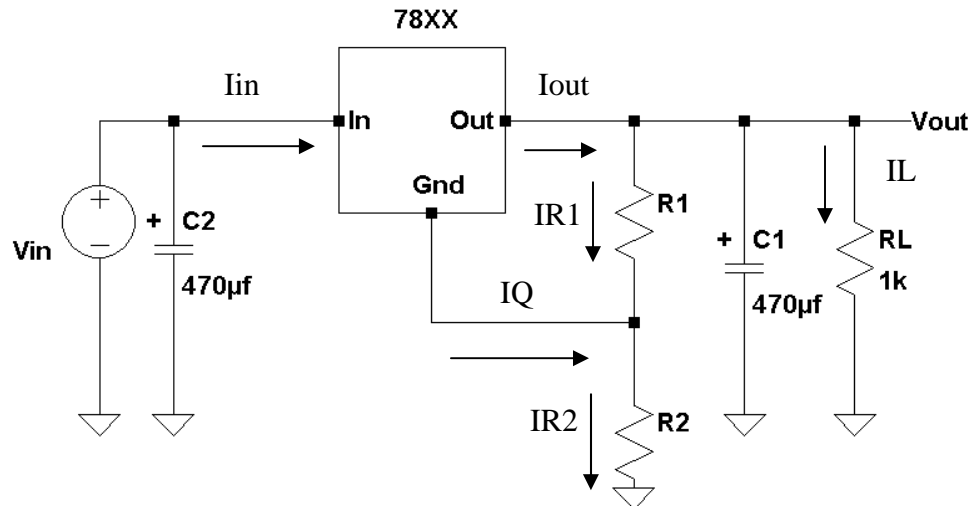

Figure 5: A circuit diagram to make linear voltage regulator adjustable.
The three terminal regulators can also be made to be adjustable so any desired regulated output voltage can be obtained. The only requirement is that the minimum voltage is that of the part itself. For example, a 7805 regulator can be made adjustable, but its minimum output voltage is 5 volts. Figure 5 gives the circuit required to make a three-terminal linear regulator adjustable. For this discussion, assume the regulator output voltage is V_{reg} (the voltage between the output and the ground pins of the regulator). Then I_{R1} is then given by
1. Calculate the resistors R_1 and R_2 required to produce an output voltage of 7 volts for the linear regulator circuit of Figure 5. The minimum values for R_1 and R_2 should be 1000 ohms.
2. Build the linear regulator circuit of Figure 5 using a 7805 regulator and a 1000 ohm resistor for R_L . Take note of the polarity of the two electrolytic capacitors. Double check your wiring.